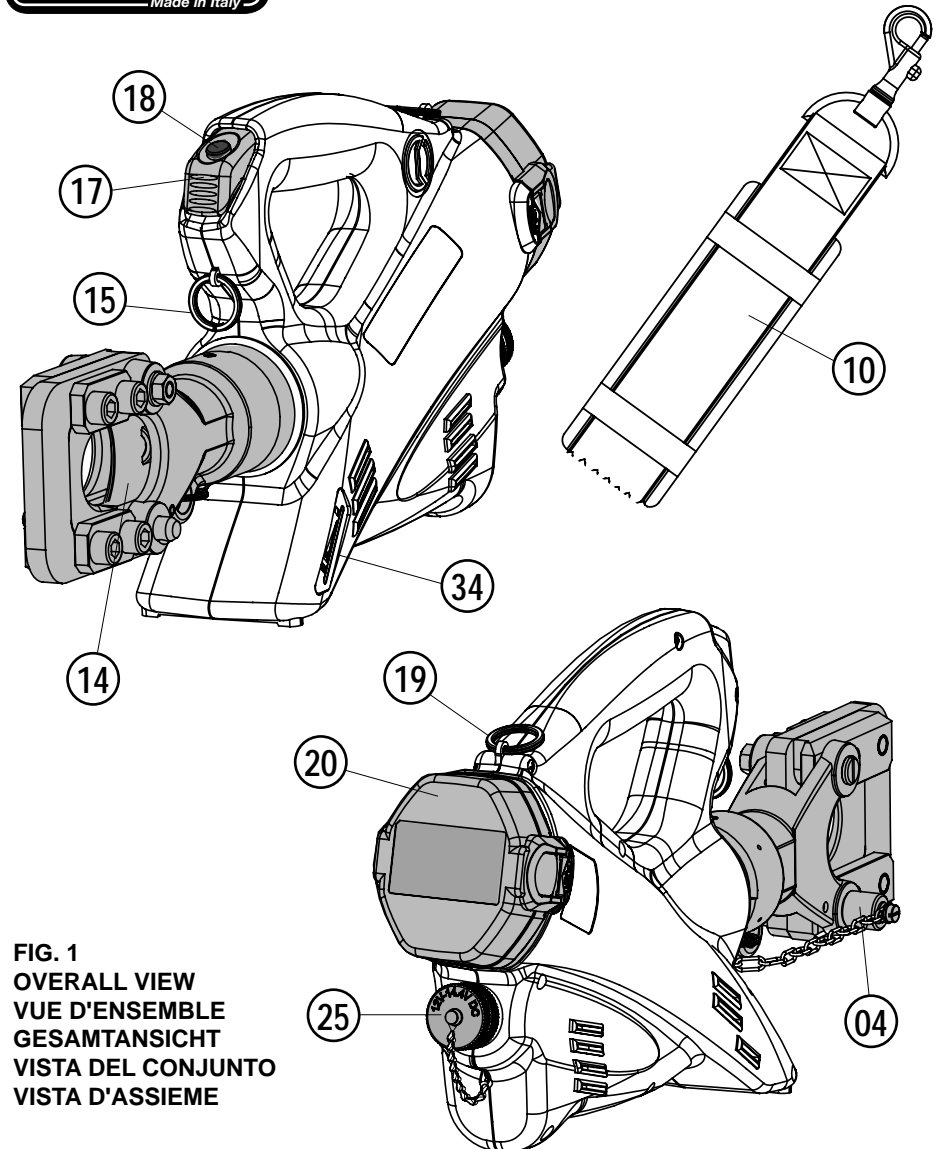

FIG. 1
2. INSTRUCTIONS FOR USE (Ref. to Figs. 1 and 6)
2.6) Battery status (Ref. to Fig. 1)